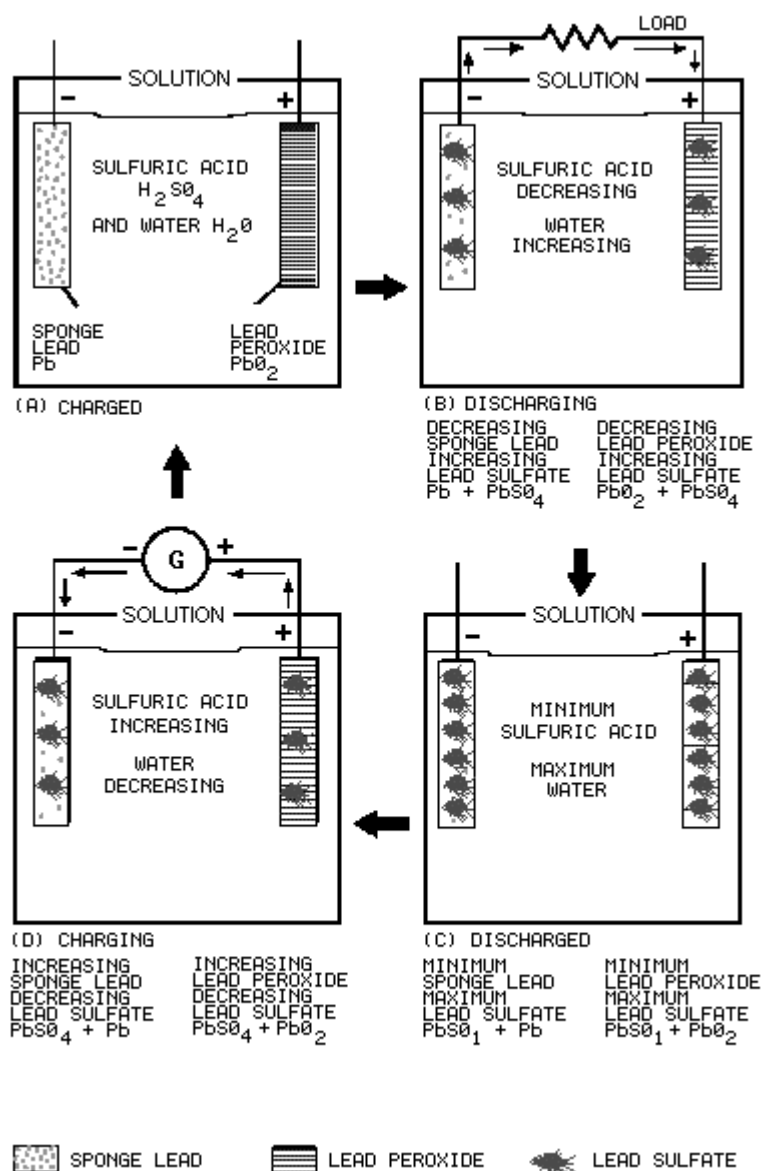

Figure 2-3.—Secondary cell.
As stated before, the differences between primary and secondary cells are, the secondary cell can be recharged and the electrodes are made of different materials. The secondary cell shown in figure 2-3 uses sponge lead as the cathode and lead peroxide as the anode. This is the lead-acid type cell and will be used to explain the general chemistry of the secondary cell. Later in the chapter when other types of secondary cells are discussed, you will see that the materials which make up the parts of a cell are different, but that the chemical action is essentially the same.
Figure 2-3 view A shows a lead-acid secondary cell that is fully charged. The cathode is pure sponge lead, the anode is pure lead peroxide, and the electrolyte is a mixture of sulfuric acid and water.
Figure 2-3 view B shows the secondary cell discharging. A load is connected between the cathode and anode; current flows negative to positive as shown. This current flow creates the same process as was explained for the primary cell with the following exceptions.
When the cell is fully discharged it will be as shown in figure 2-3 view C. The anode and cathode retain some lead peroxide and sponge lead but the amounts of lead sulfate in each is maximum. The electrolyte has a minimum amount of sulfuric acid. With this condition no further chemical action can take place within the cell.
As you know, the secondary cell can be recharged. Recharging is the process of reversing the chemical action that occurs as the cell discharges. To recharge the cell, a voltage source, such as a generator, is connected as shown in figure 2-3 view D. The negative terminal of the voltage source is connected to the cathode of the cell and the positive terminal of the voltage source is connected to the anode of the cell. With this arrangement the lead sulfate is chemically changed back to sponge lead in the cathode, lead peroxide in the anode, and sulfuric acid in the electrolyte. After all the lead sulfate is chemically changed, the cell is fully charged as shown in figure 2-3 view A. Once the cell has been charged, the discharge-charge cycle may be repeated.
*Q11. Refer to figure 2-3(B). Why is the sulfuric acid decreasing?*
*Q12. Refer to figure 2-3(D). How is it possible for the sulfuric acid to be increasing?*
*Q13. Refer to figure 2-3(D). When all the lead sulfate has been converted, what is the condition of the cell?*